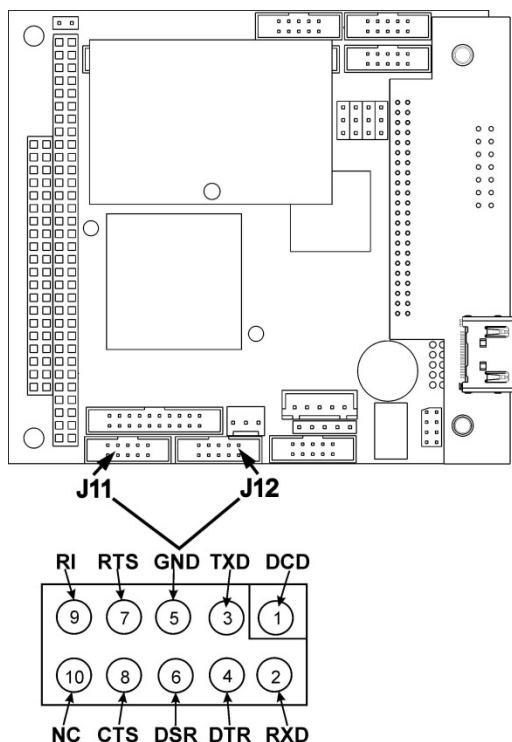

Figure 2-10. Default Pin Assignments for CPU COM Port Connector (RS-232)
The signals from these two connectors are routed from the motherboard via a wiring harness to two 10-pin connectors on the CPU card, J11 and J12 (Figure 2-10).
6. On the rear panel of each analyzer, adjust the DCE DTE switch so that the green and the red LEDs (RX and TX) of the COM1 connector (labeled RS232) are both lit. (Ensure you are using the correct RS-232 cables internally wired specifically for RS-232 communication; see Figure 2-10).